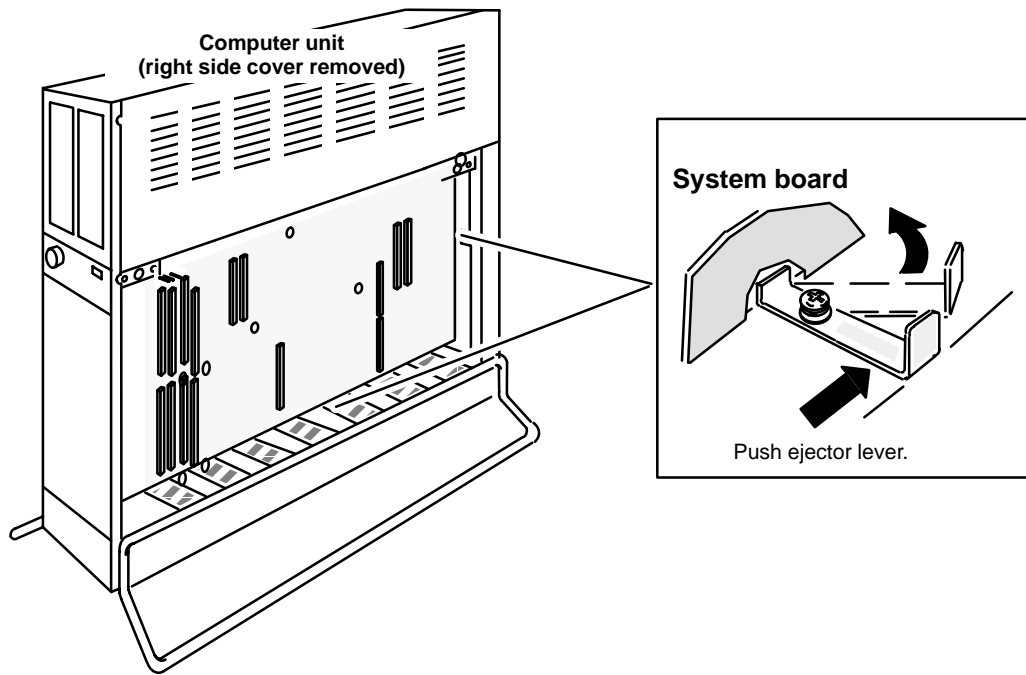

Figure 10-5 Releasing the System Board from the VME Backplane
- Push the two ejector levers to the right as shown in Figure 10-5 to disconnect the system board from the VME connectors behind it.